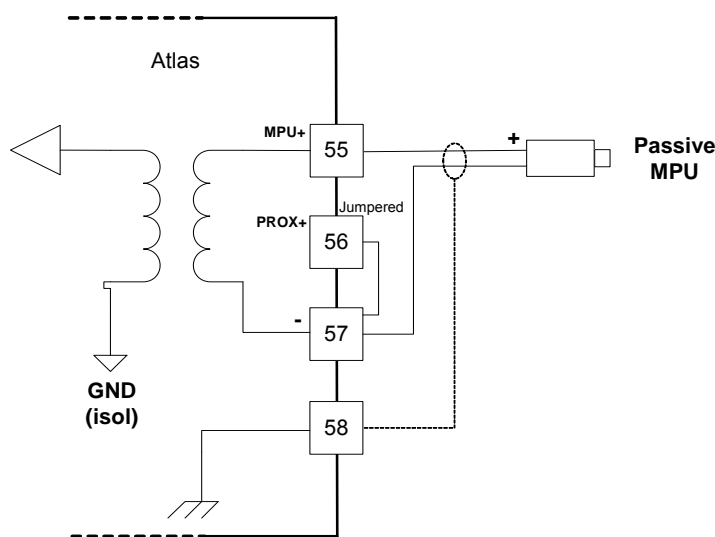

Figure 4-8. Example-MPU Interface, SmartCore Board
- Refer to Figures 4-8 and 4-9 for speed sensor wiring.